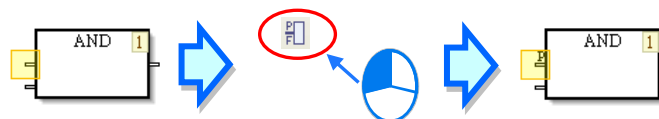

Figure 12-20 Rising edge/Falling edge
- (3) If users select a pin of a logic gate, a pin of a function block, or a pin of an instruction, and then click  on the PMSoft toolbar or on the context menu which will appear after the users right-click the pin, the pin will be rising-edge triggered. Please see figure 12-20. If the users select a pin which is rising edge-triggered, and then click , the pin will be falling edge-triggered. If the users select a pin which is falling edge-triggered, and then click , the pin will not be falling edge-triggered.